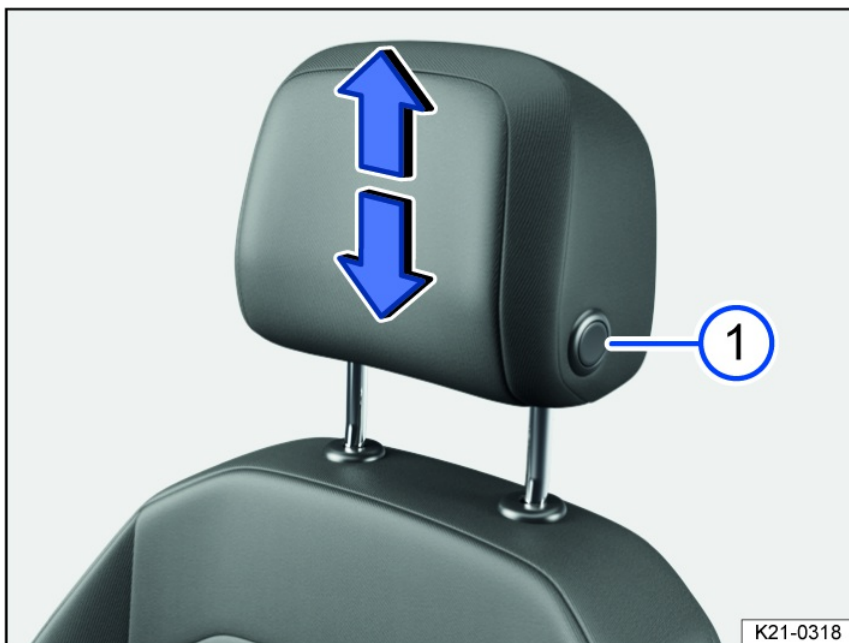
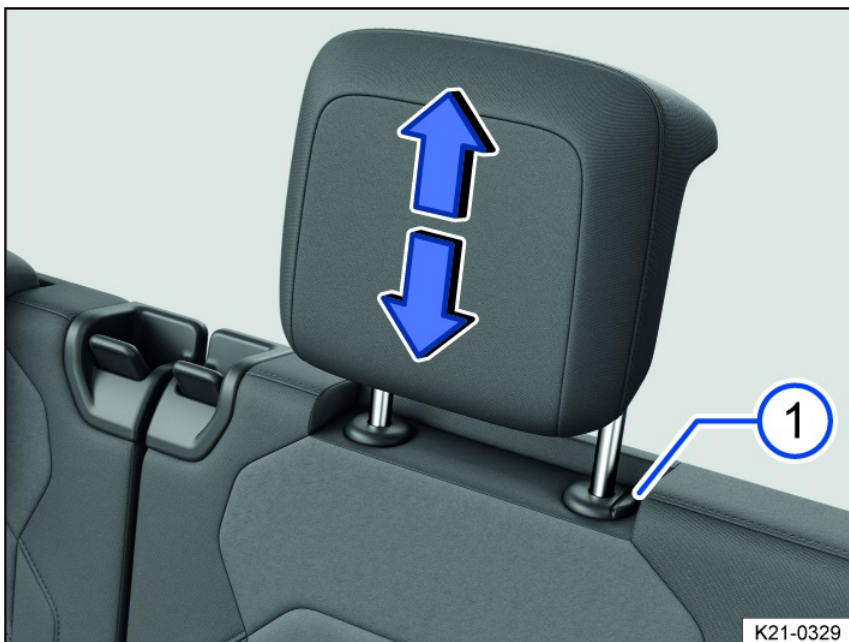
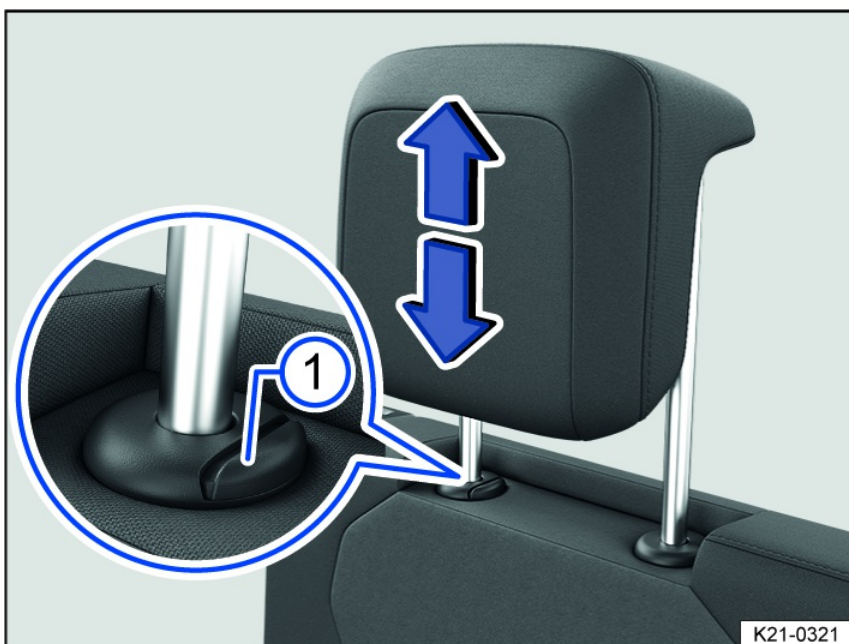

Fig. 88 Adjusting the front head restraint (general example).
Fig. 89 Adjusting the head restraint on the second-row seats (general example).
Fig. 90 Adjusting the head restraint on the third-row seats (general example).
1. Slide the head restraint up or down in the direction of the arrow; you may need to press the button fig. 88, fig. 89 or fig. 90 first to release the head restraint.